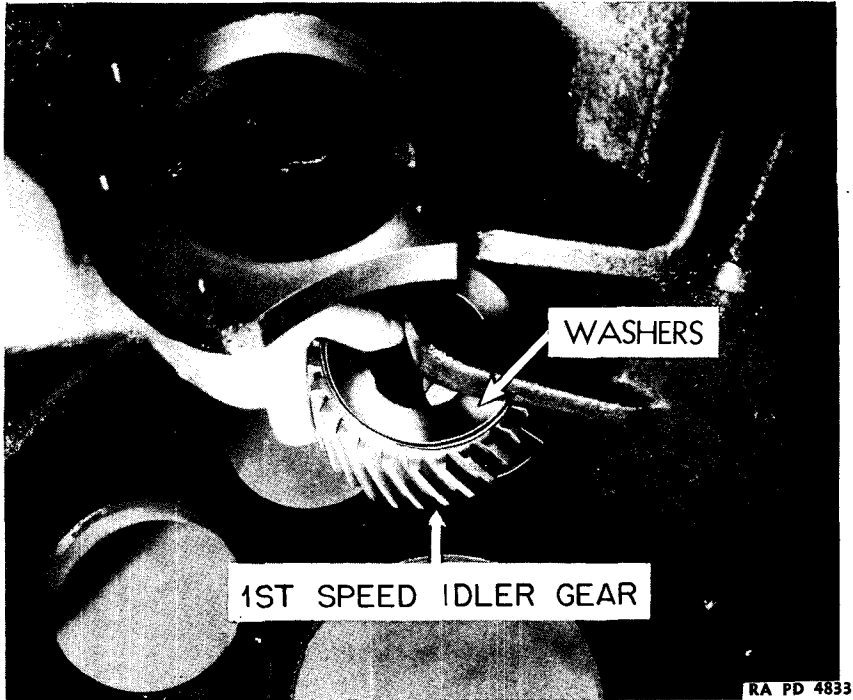

FIGURE 39 — FIRST SPEED IDLER GEAR BEING REMOVED
(23) Remove reverse idler gear (*fig. 39*). Force first speed idler shaft out through front end of transmission case, using brass rod and hammer. Lift out first speed idler gear, with two washers on each side. Remove washers and two Hyatt bearings from gear by hand.